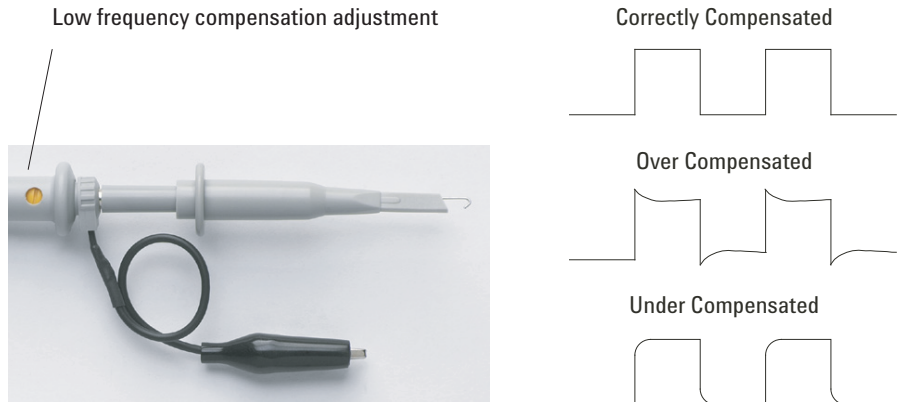

Figure 4 Low Frequency Probe Compensation
- 4 If waveform does not appear like the Correctly Compensated waveform shown in Figure 4, then use a nonmetallic tool to adjust the low frequency compensation adjustment on the probe for the flattest square wave possible.